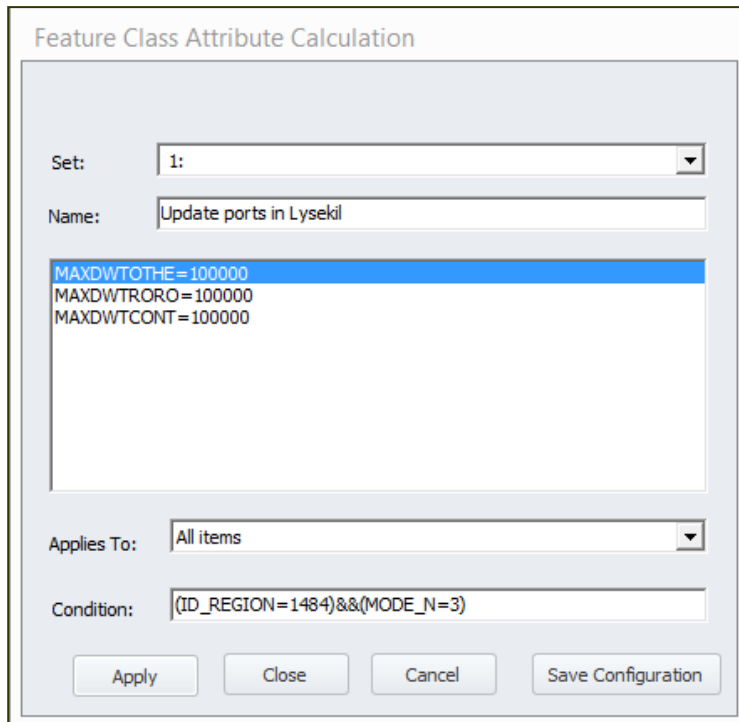

Figure 60 The Feature Class Attribute Calculation window
- Modify values based on a condition. Under Link or Node (depends on the type of layer) on the menu bar, the “Compute” option is available when the session is in Edit mode. By selecting “Compute”, access is given to the Feature Class Attribute Calculation window, shown in Figure 60. In this window, it is possible to edit the values and apply a condition (in the example in Figure 60, the capacities for all ports in the Lysekil region are updated, more details on this specific example can be found in Section 9.6).